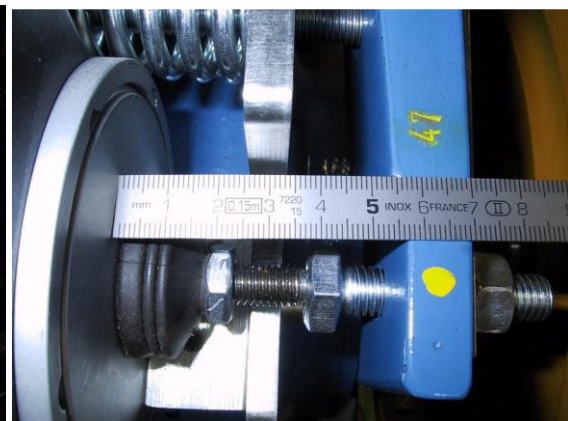

Fig. 13
- Measure the distance between the inside edge of the brake lever and the top edge of the solenoid and mark this value minus 10 mm clearly and permanently on the brake lever to show the minimum clearance (e.g. stamp numbers, see fig. 13).